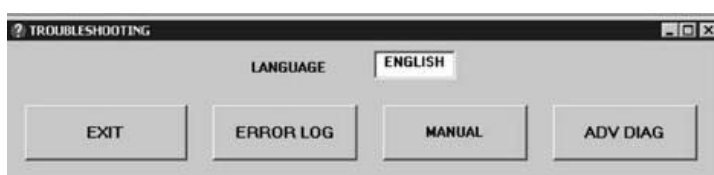

FIGURE 48
13. HELP – Click to launch troubleshooting panel (Figure 48)– See Trouble Shooting Section (Section 11.11)